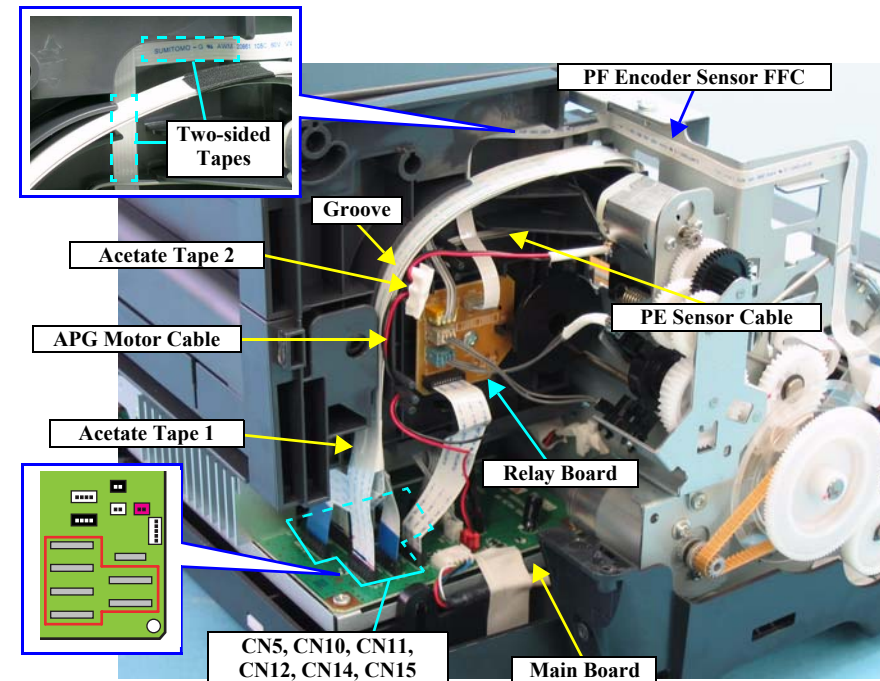

Figure 4-27. Releasing the Cables (2)
- Referring to Figure 4-27, route each of the Cables and FFCs.